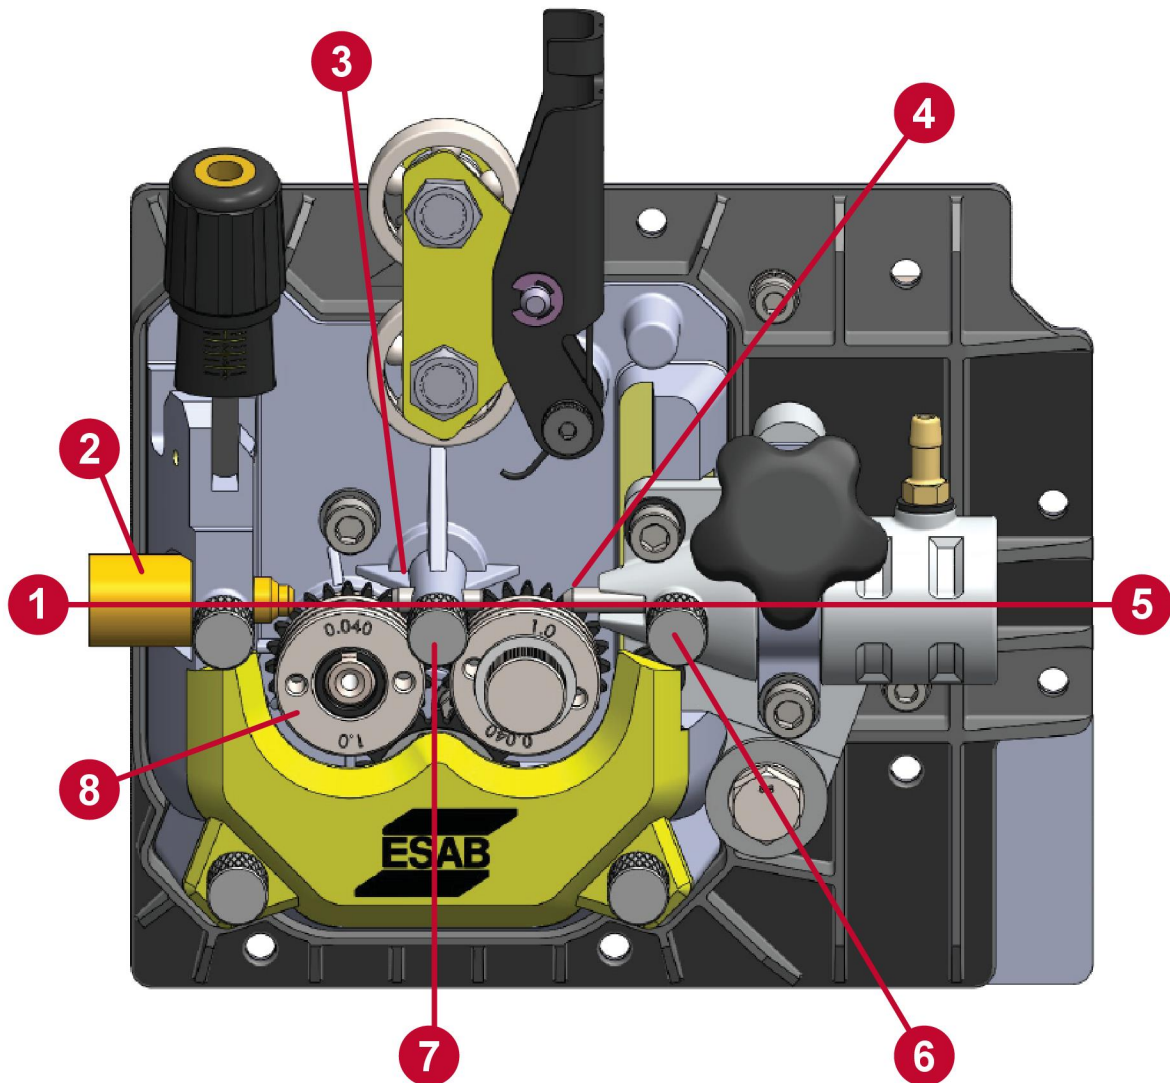

Figure 18. Location of wire-guides and their set screws
1. Loosen the output wire-guide thumb screw (see Figure 18).
1. Loosen and remove the original center wire-guide tube (see Figure 18 for location). This center wire-guide tube removes/installs only from the left side.
4. Feed the wire from the bobbin through the wire-feed guides laying the wire in the grooves of the wire-feed rollers as shown in Figure 18. Lay the wire into the **inside** groove of the wire-feed rollers. Continue feeding the wire until it projects beyond the torch-adapter output side by a few centimeters.